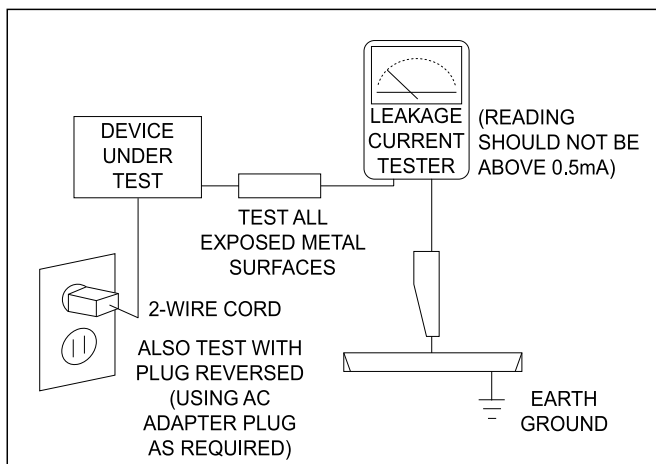

Figure 1.1 AC Leakage Test
- 4) Leakage Current Hot Check Figure 1.1 AC Leakage Test: